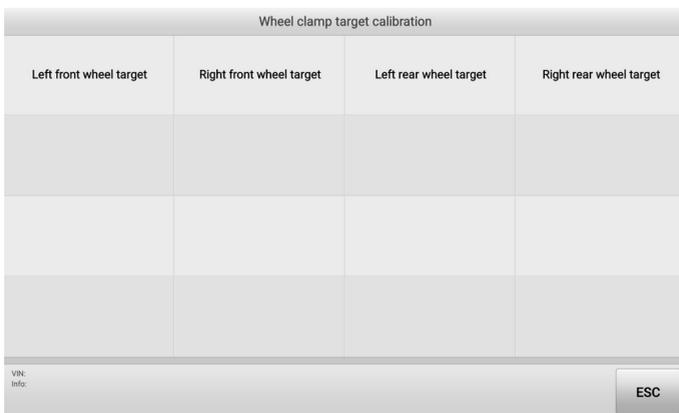

Figure 5-20 Select Target for Calibration
5. The following screen displays, then select the target that needs to be calibrated. For example, select **Left front wheel target** (which is well installed on the left front rim clamp). See Figure 5-20 Select Target for Calibration.